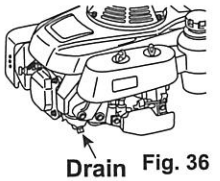

Fig. 36
- Extract the fuel from the fuel tank and the carburetor. (See Fig. 36)